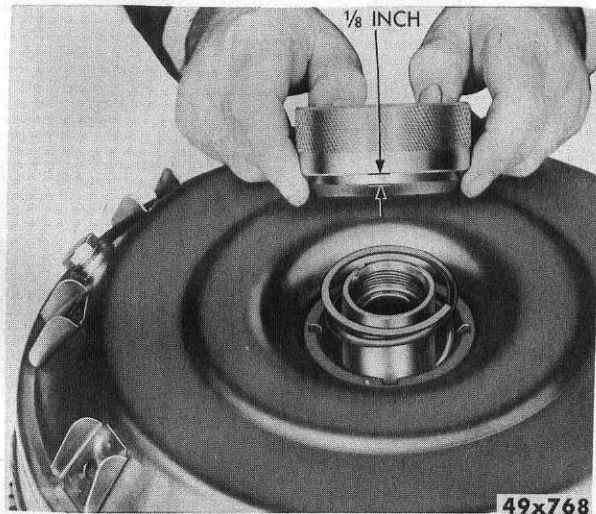

Fig. 16—Positioning Inner Sleeve of Tool C-884
- (9) Push the angular end of the inner sleeve out until approximately $\frac{1}{8}$ inch shows, as shown in Figure 16.
- (10) Place the angular end of the inner sleeve in the chamfer of the seal housing. Push the outside collar down so it seats on the face of the seal housing.